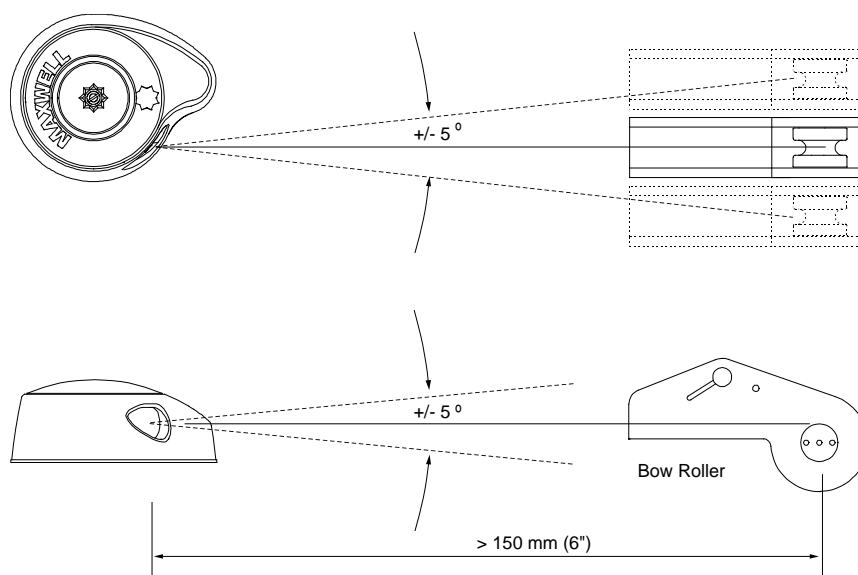

Figure 13 - Aligning the windlass with the bow roller
- The bow roller should have a central groove suitable for the chain size, as shown in “Figure 13 - Aligning the windlass with the bow roller” on page 15.
- The windlass should be aligned with the bow roller within the tolerances shown in Figure 13 below.
(See also "Figure 13 - Aligning the windlass with the bow roller" on page 15).
Ensure that the windlass has the correct vertical alignment with the bow roller as shown in "Figure 13 - Aligning the windlass with the bow roller" on page 15.